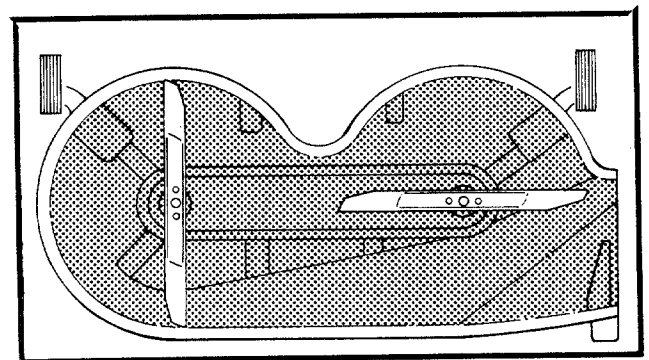

FIGURE 36.
2. Rotate the blade on the cutting deck and reassemble the other blade at 90° exactly as shown in figure 36.